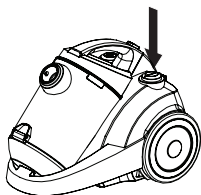

Figure 5
5. The power cord has a yellow and red mark, see Figure 5. Pull out the cord to the yellow mark.